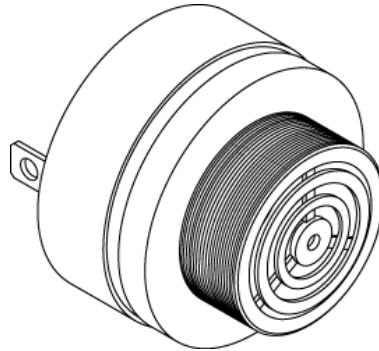

Figure 3 Buzzer
- 3) The buzzer (i.e., horn) provides an audible alert when the ELT is active. See Figure 3 Buzzer.